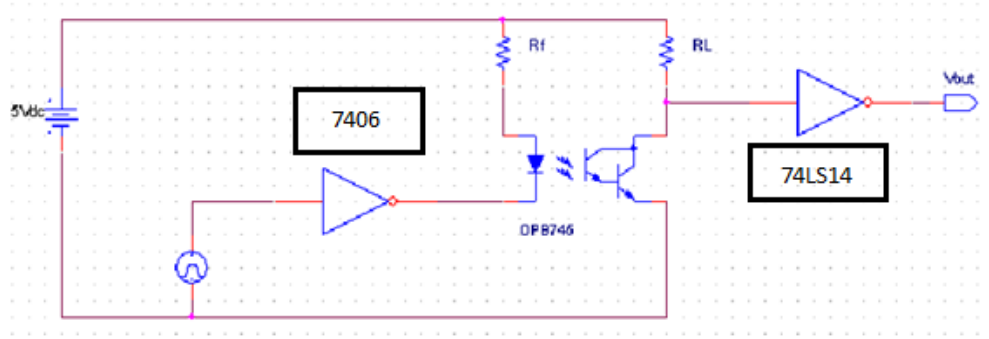

Figure 3.4: OPB745 Circuit for Part 2
- Construct the circuit shown in Figure 3.4 using the test chamber and attached OPB745, a 7406 inverter package, a 74LS14 inverter package, and the resistor value, R_F calculated in the pre-lab.